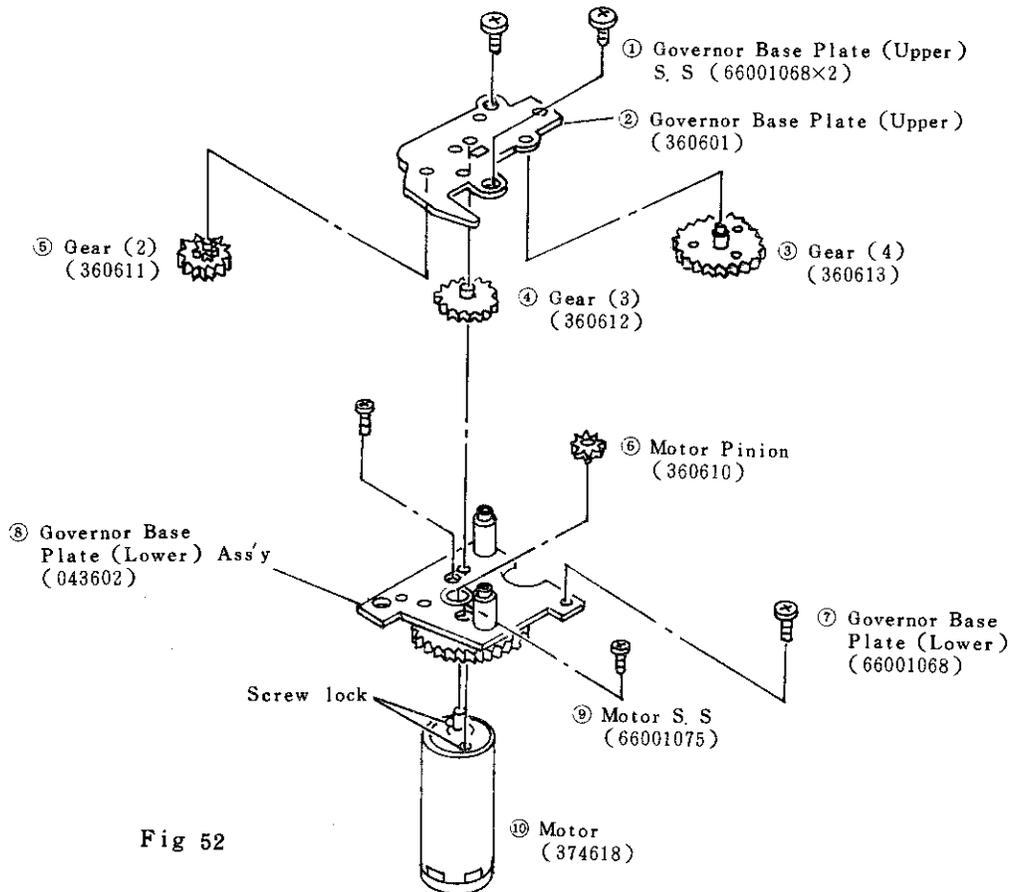

Fig 52
1) Remove the respective parts ①~⑩ shown in (Fig 52) in numerical order.